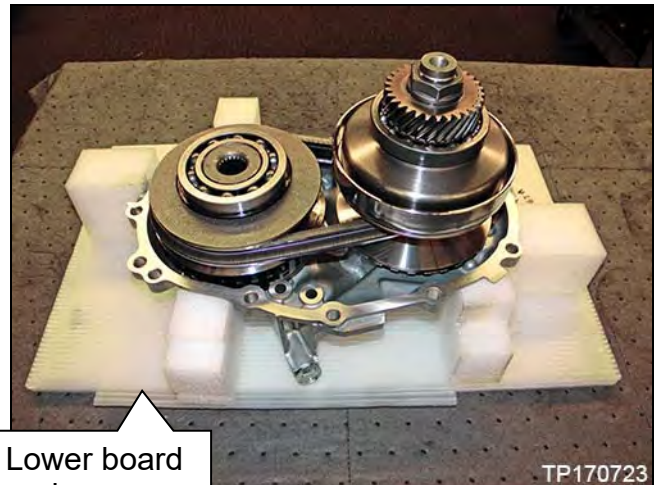

Figure 8N
- The sub-assembly must be level and oriented as shown in Figure 8N for proper seating of the CVT case later in this procedure.